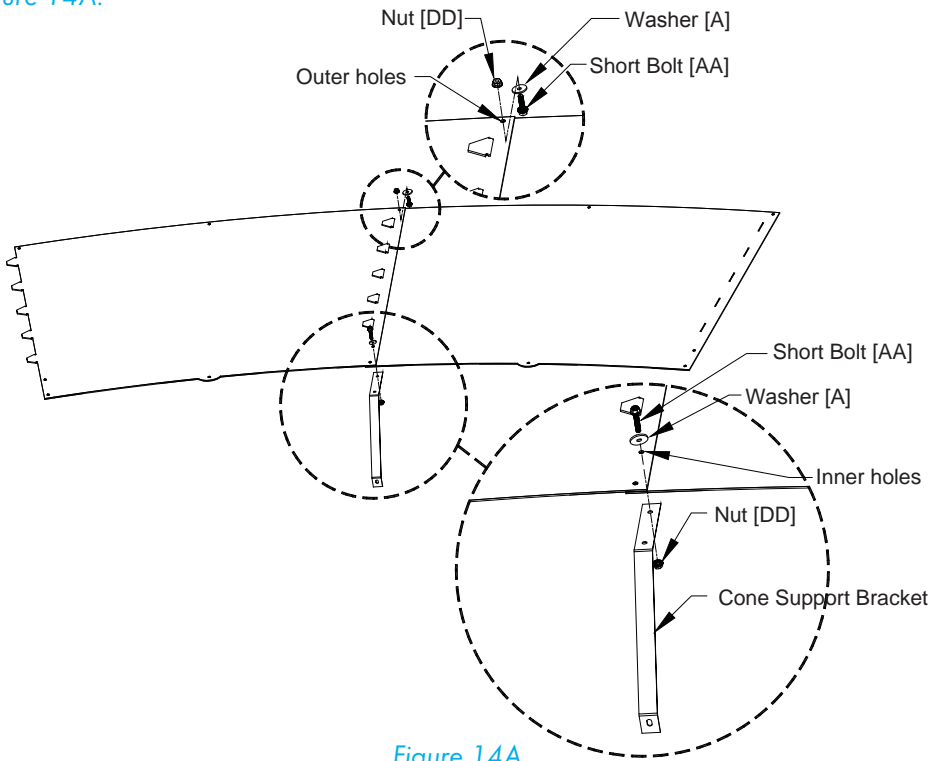

Figure 14A
Fasten each of the joints in the single outer hole using (1) Short Bolt [AA], Washer [A] and Nut [DD], with the nut on the side with the tabs. At the inner pair of holes of each joint attach (1) Cone Support Bracket to the inner hole using (1) Bolt [AA], Washer [A] and Nut [DD] with the bolt head on the side with the tabs. See Figure 14A.